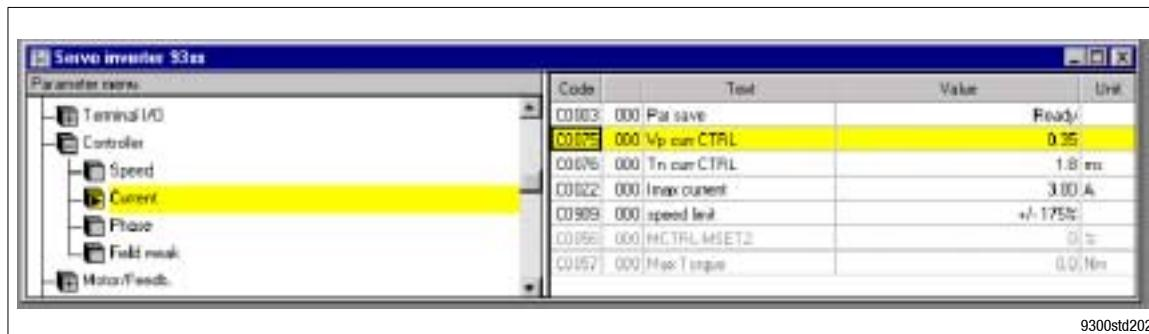

Fig. 5-2
- The current controller is adjusted under codes C0075 (V_p) and C0076 (T_r). For this, call the parameter menu in Fig. 5-2.